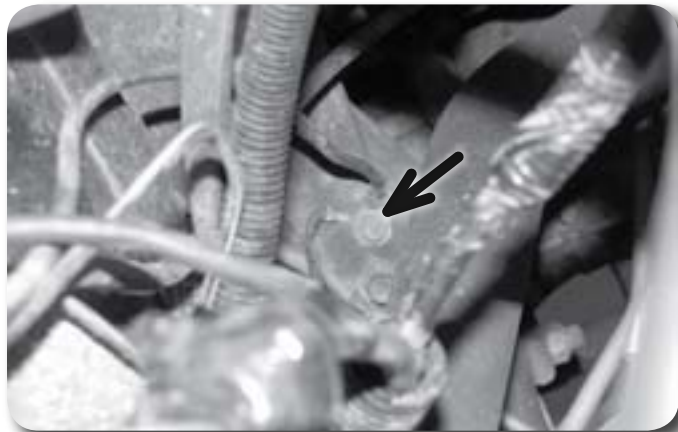

Figure 14
24. Remove the bolt mounting the ground strap(s) to the passenger's side frame rail **Figure 14**. Save bolt.